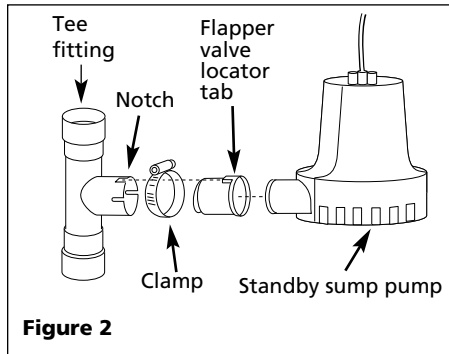
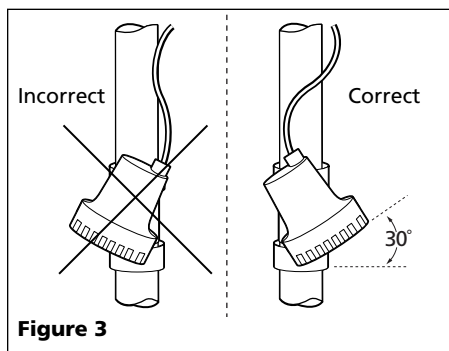

Figure 2
Figure 3
the up direction arrow on the tee; the notch must be to the top or flapper valve will not work (see Figure 2).
5. Insert flapper valve into tee. Be sure locator tab is in the notch in tee (see Figure 2).
7. Insert pump into flapper valve, tilt pump 30°. When tilted, side with power cord should be up (see Figure 3). Tighten clamp around the pump and flapper valve (see Figure 2).
**⚠ WARNING** Pump must be tilted as shown in Figure 3 to prevent air locking.